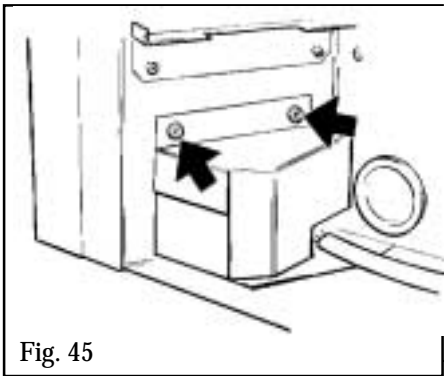

Fig. 45
- Detach the control unit from the fire box (left hand side) flange by removing two screws (see figure 45). Carefully withdraw the unit.